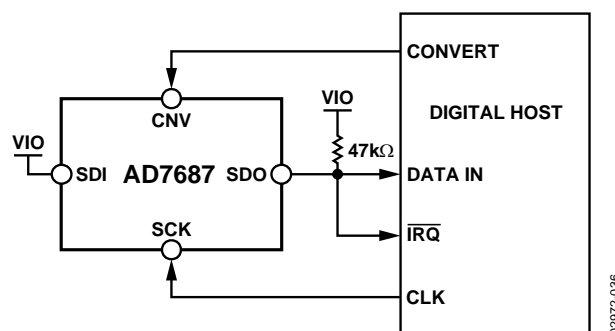
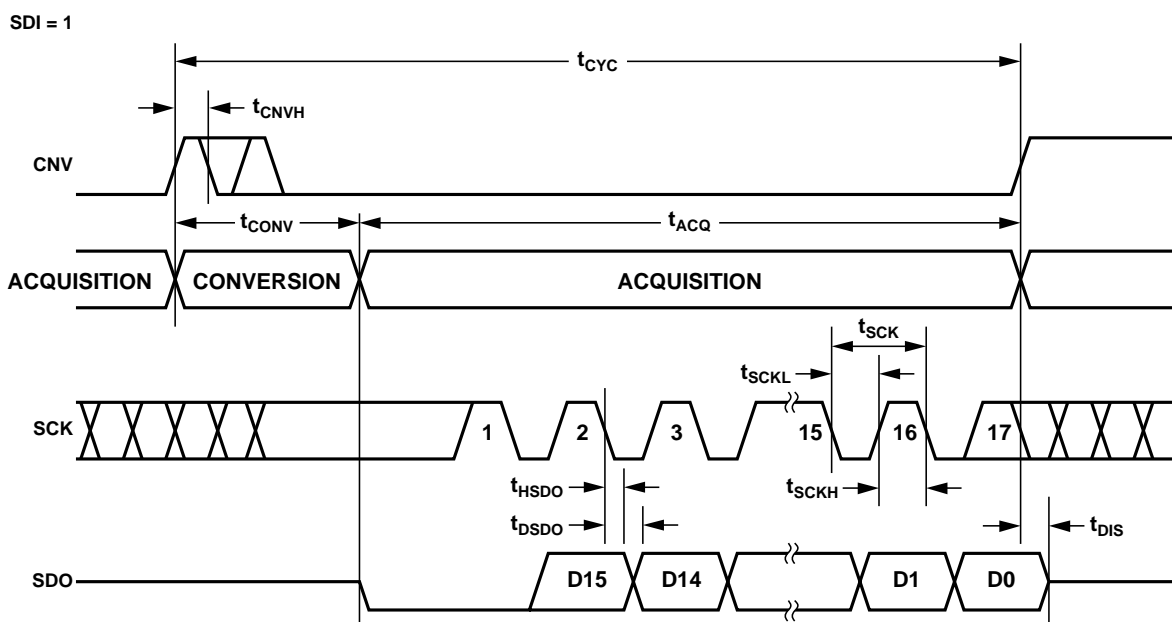
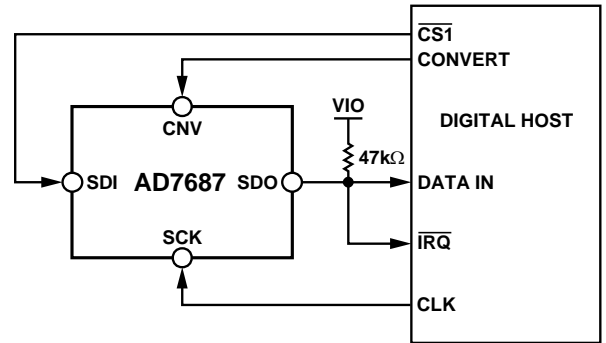
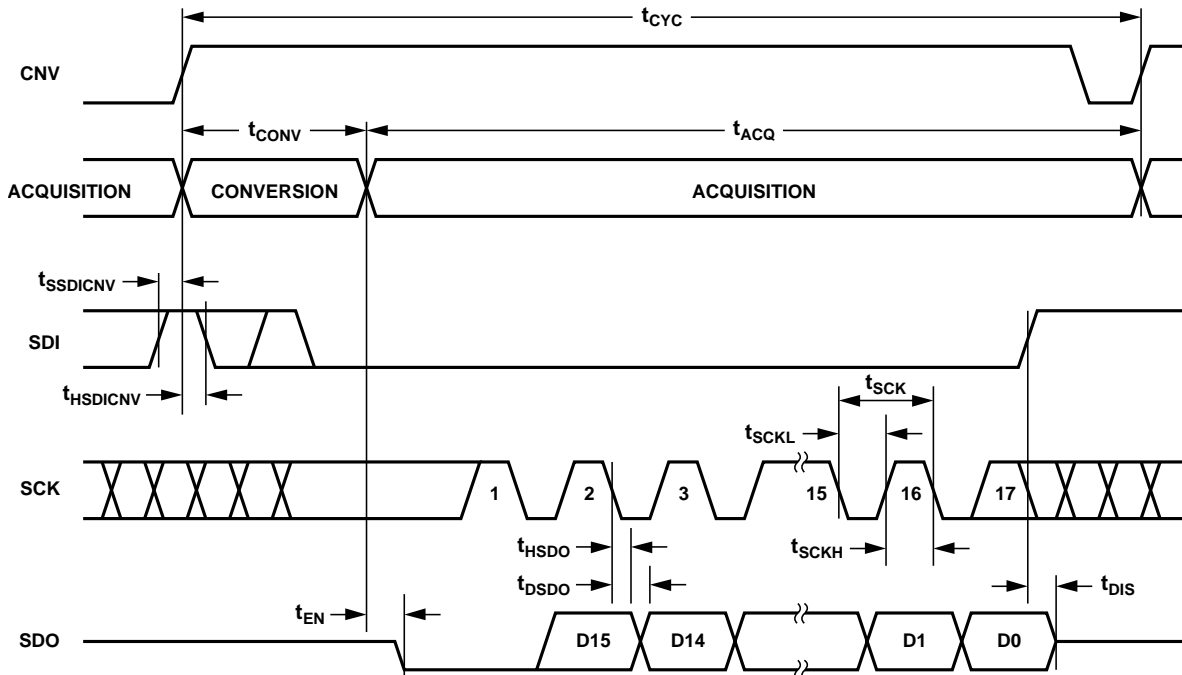

Figure 37. $\overline{\text{CS}}$ Mode 3-Wire with BUSY Indicator Connection Diagram (SDI High)
Figure 38. $\overline{\text{CS}}$ Mode 3-Wire with BUSY Indicator Serial Interface Timing (SDI High)
Figure 41. \overline{CS} Mode 4-Wire with BUSY Indicator Connection Diagram
Figure 42. \overline{CS} Mode 4-Wire with BUSY Indicator Serial Interface Timing
- In the \overline{CS} mode, if \overline{CNV} or SDI is low when the ADC conversion ends (Figure 38 and Figure 42).
The connection diagram is shown in Figure 37 and the corresponding timing is given in Figure 38.
The connection diagram is shown in Figure 41 and the corresponding timing is given in Figure 42.